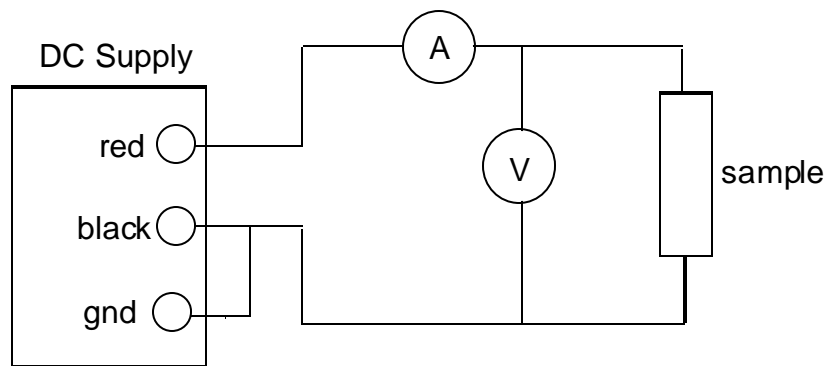

Fig.1. Circuit for measuring resistance
3. Connect the circuit shown in Fig. 1 below. Technical note: Meters can influence sensitive circuit measurements. Namely, the current through the A-meter includes both the sample and the V-meter currents. The V-meter, however, draws negligible current for the samples we use.